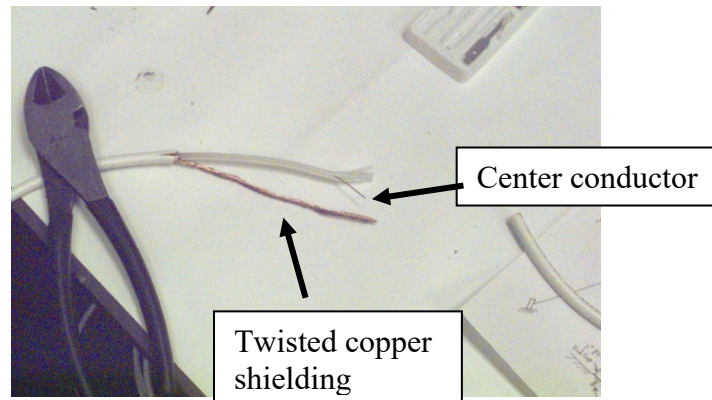

Figure 5.2c – Twist the copper shielding and expose the center conductor.
3. ○ Twist all the individual wires together to form one continuous wire (Figure 5.2c).